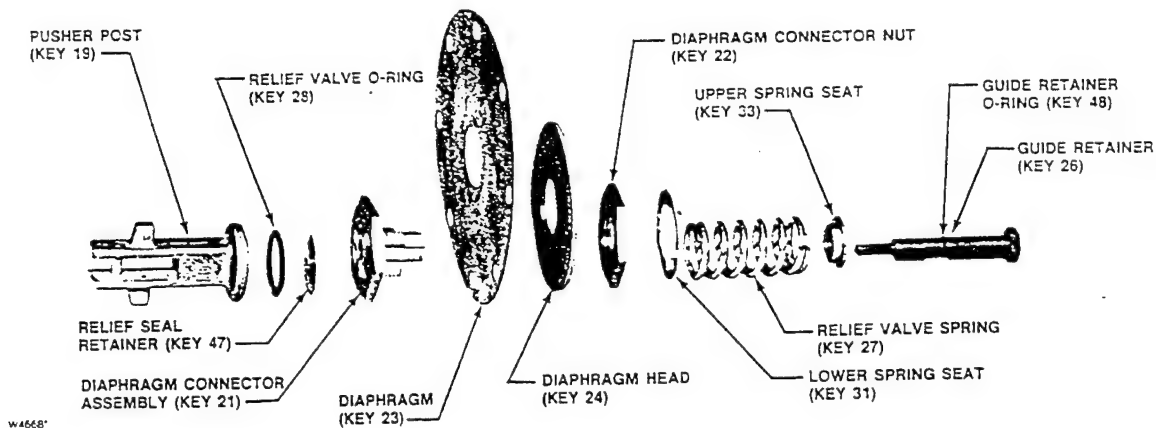

Figure 6. Diaphragm Assembly with Relief Valve Parts
12. For Type 627R and 627MR regulators (figure 6), use steps 13 through 19 to disassemble and reassemble the diaphragm assembly:
13. Remove the guide retainer (key 26) and separate the diaphragm parts. Refer to figure 6 for the sequence of parts.
14. To remove the diaphragm (key 23), remove the diaphragm connector nut (key 22) and lift off the diaphragm head (key 24) and diaphragm (key 23) from the connector assembly (key 21). Do not attempt to disassemble the connector assembly (key 21).
15. Position the replacement diaphragm (key 23) on the connector assembly (key 21), install the diaphragm head (key 24) and connector nut (key 22), then torque to 17 foot-pounds (32 N•m).
16. If necessary, replace the guide retainer O-ring (key 48) and, set the guide retainer (key 26) aside, ready for assembly.
17. On the pusher post (key 19) install the relief seal O-ring (key 28) and lubricate (key 42). Also, install the relief seal retainer (key 47), diaphragm connector assembly (key 21, with attached parts) relief spring (key 27), upper relief spring seat (key 33), and guide retainer (key 26). Torque the guide retainer (key 26) to 3 foot-pounds (4 N•m).
18. Hook the pusher post (with attached parts) on the lever (key 15) to check the alignment of the holes in the diaphragm with the holes in the spring casing. If the holes do not line up, unhook the pusher post from the lever, hold the pusher post, and rotate the diaphragm to the correct position.
19. Install the lower spring seat (key 31) over the relief spring so it rests flat on the connector nut (key 22).
20. Insert the diaphragm assembly into the diaphragm casing (key 5) and hook the pusher post on the lever (key 15).
21. Install the control spring (key 32) and upper spring seat (key 33), and apply lubricant (key 38) to the upper spring seat (key 33).
22. Install the spring case (key 29) so that the screened vent assembly (key 30) is in the correct posi-